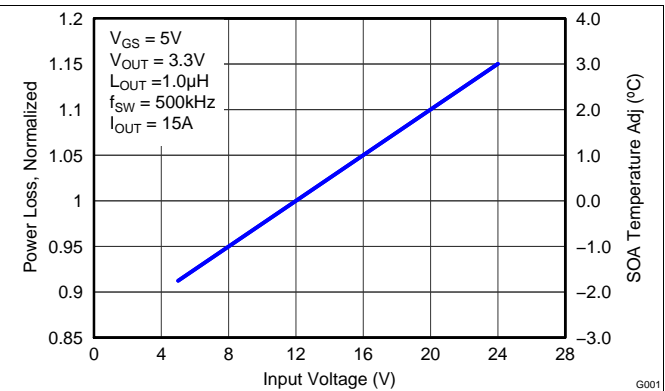

Figure 7. Normalized Power Loss vs Input Voltage
- Normalized power loss for input voltage ≈ 1.1 (Figure 7)
- SOA adjustment for input voltage ≈ 2°C (Figure 7)